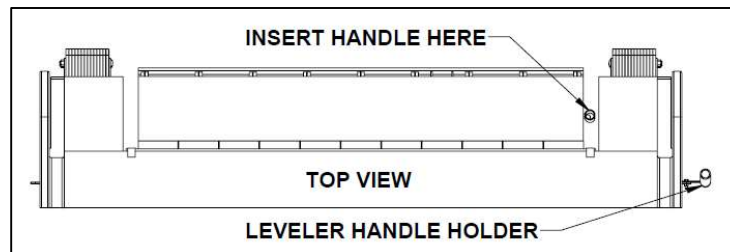

Figure 10a. Leveler Handle Locations
1. Locate the leveler operation handle and insert it into the cup located on the right side of ramp (see Figure 10a).